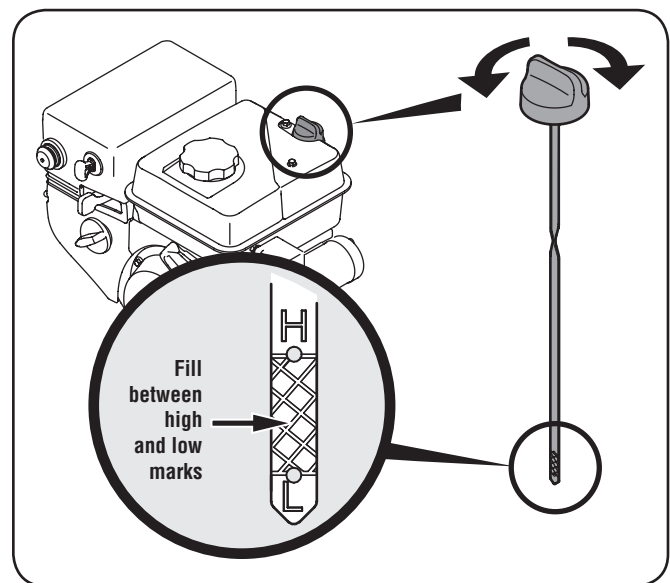

Figure 3-2
- Keep oil level between the high (H) and low (L) marks on dipstick. See Fig. 3-2.
1. Remove the oil filler cap/dipstick and wipe the dipstick clean. See Fig. 3-2.
3. Remove the oil filler cap/dipstick. If the level is low, slowly add oil until oil level registers between high (H) and low (L), Fig. 3-2.
**NOTE:** DO NOT allow oil level to fall below the low (L) mark on the dipstick. Doing so may result in equipment malfunctions or damage.
4. Loosen and remove the oil fill cap dipstick from the oil filler tube. Note the oil level, if oil reading on the dipstick is below the low (L) mark, slowly add oil to reach the high (H) mark. See Fig. 3-2 or 3-3, whichever is applicable.